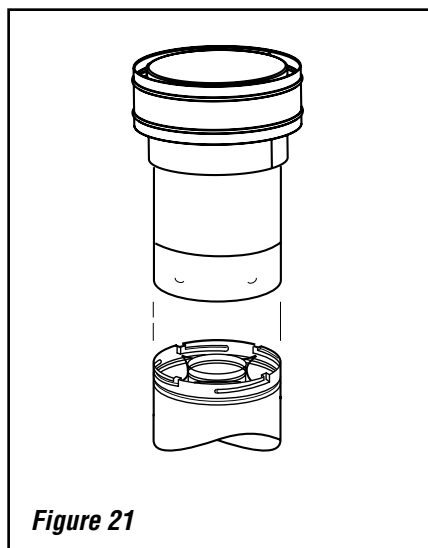

Figure 21
K. Install the vertical termination - The final step involves installation of the Vertical Termination. Extend the vent sections to the height as shown in the "Vertical vent termination section" on **Page 6**. The Vertical Termination (**Figure 21**) installs in the exact same fashion as any other **Secure Vent** section. Align the termination over the end of the previously installed section, adjusting the radial alignment until the four locking dimples of the termination are aligned with the inlets of the four incline channels of the last vent section. Push the termination down until it fully engages, then twist the termination clockwise running the dimples down and along the incline channels until they seat at the end of the channels.